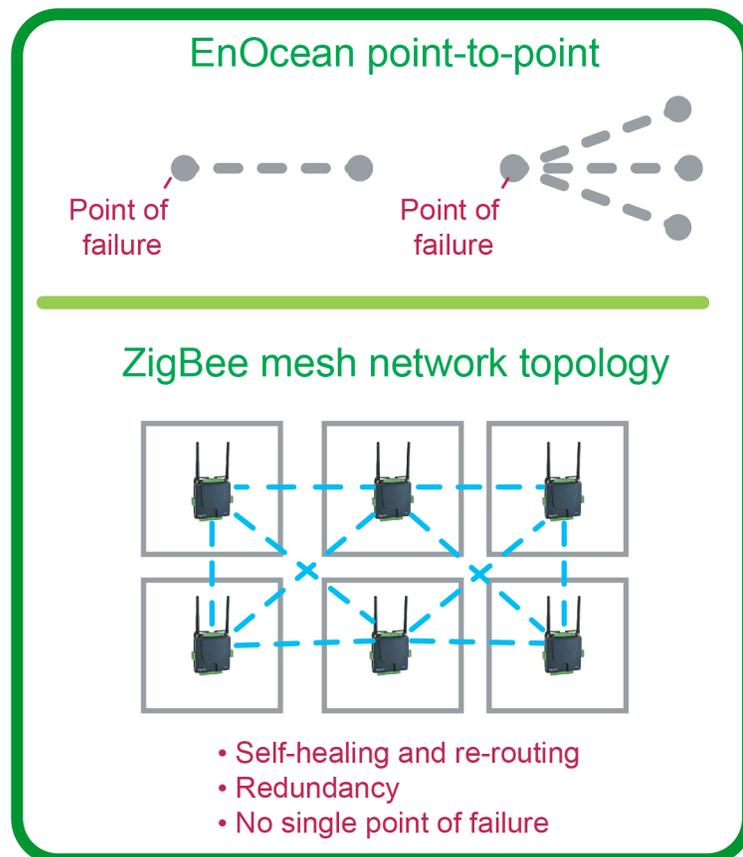

Figure 1: Comparison of wireless topologies
- ZigBee protocol supports a mesh network topology that is self-repairing and auto-routing. Mesh networks do not depend on any single connection; if one link is broken, devices search through the mesh to find another available route (see Figure 1). This capability makes a ZigBee-based network very reliable and flexible. Where EnOcean devices must be connected directly to a controller, a ZigBee device can be several jumps away from its controller.